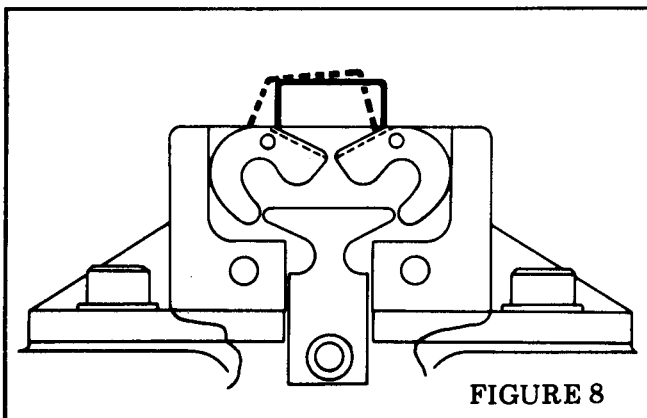

FIGURE 8
The formers (Index A & B, figure 6) perform two functions: (1) They bend the wire over the mandrel and form it into a stitch. (2) They guide and support the stitch as it is driven through the work material. The legs of an unclined stitch should be at right angles to the crown. When the formers become worn, the legs tend to flare out. See figure 8. This causes the legs to strike the clincher improperly. As a result, one or both legs will crumple. If the lower end of the former groove becomes chipped, it will not support the wire and may cause the stitch to break at the crown.
The edges of the mandrel determine a definite angle at which the wire is bent to form a stitch. If these edges become worn, the legs of the stitch will flare out and miss the grooves in the clincher. See figure 8. This causes a buckled leg. A worn mandrel can also cause the stitch crown to fracture.